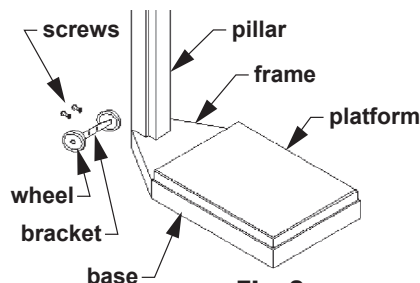

Fig. 9: Attach Wheels to Base
2. Install the two screws and washers that secure the wheels to the scale base as shown in Fig. 9 and 10.